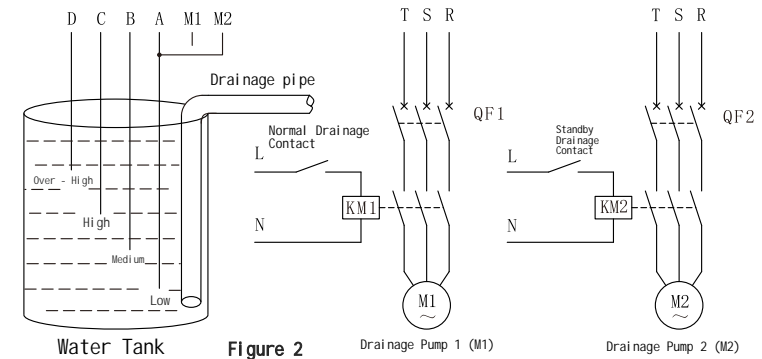

Figure 2
2. As shown in Figure 2: Leave mode selection terminal M1 unconnected, and connect M2 to terminal A. The operating principle is: When the water level in the tank is below "Medium": Neither the normal drainage contacts nor the standby drainage contacts output signals. When the water level rises to "High": The normal drainage contacts close (starting Pump 1). When the water level further rises to "Over - High": The standby drainage contacts close (starting Pump 2). When the water level drops below "High": The standby drainage contacts release (stopping Pump 2). When it further drops below "Medium": The normal drainage contacts release (stopping Pump 1). This cycle repeats...
③